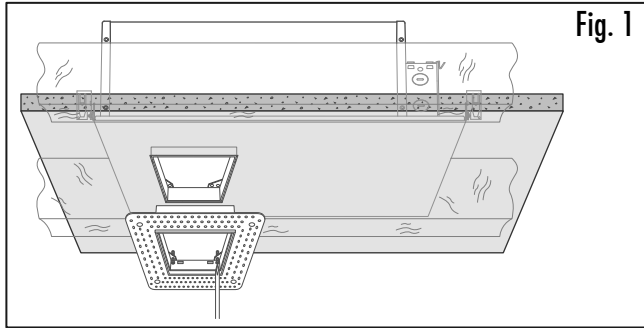

Fig. 1
2. Holding the flange in the trim bracket, drive the retaining screws (Fig. 1) into the corresponding holes in the square collar assembly. The flange should be flush to the ceiling. (If desired, flange can be fastened to drywall using drywall screws.)